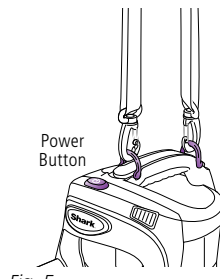

Fig. 5
- 4 Attach the shoulder strap onto the hooks on the handle of the Canister Vac. (fig. 5)
- 12 While holding the Canister Vac by the handle, press down on the power button to turn the Canister Vac on and begin vacuuming. Press down again to turn the vacuum off. (fig. 5)